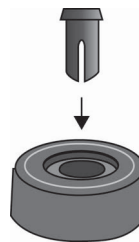

Figure 19. Inserting the Rivet Housing into the Bumper Foot
3. Inset a rivet housing into a bumper foot shown in Figure 19.